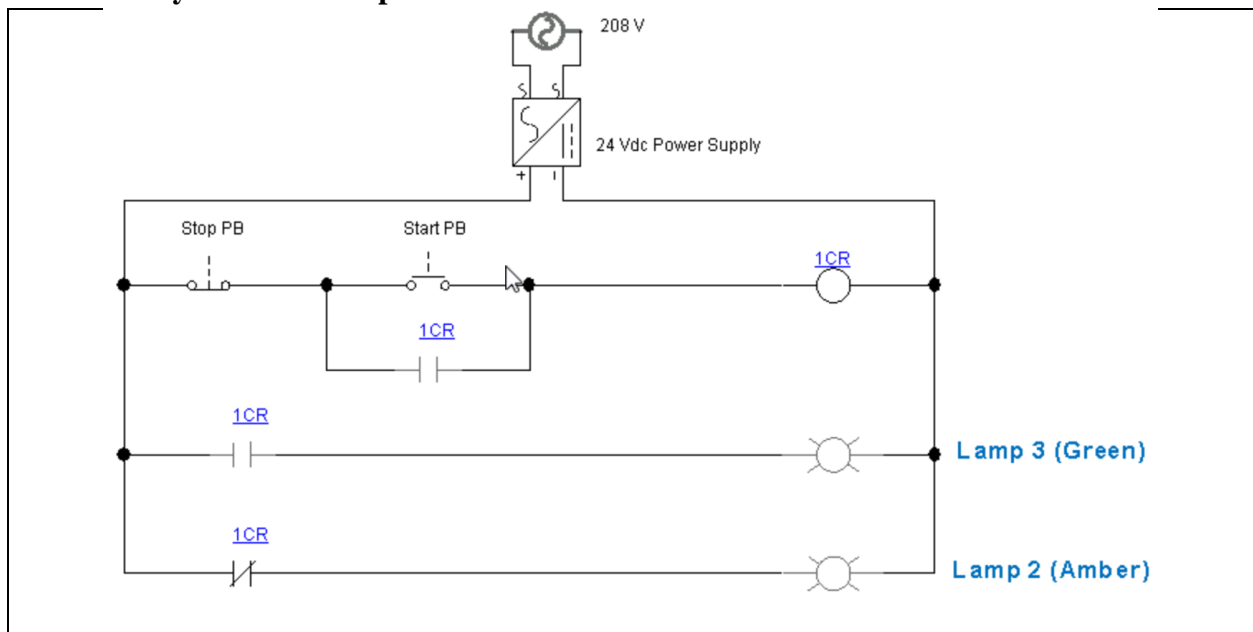

Figure 5. Relay in a start/stop/hold-in configuration.
1. Figure 5 shows a relay used in a start/stop circuit configuration, with a N.O. relay contact in parallel with the Start PB. The purpose of this N.O. relay contact is to keep the relay coil held in, after the Start PB is released.
2. Assemble the circuit in Figure 5, then turn power on the unit.
_____ (*Instructor Initials*) *The student demonstrated the skills assembling the circuit in Figure 5, then also measuring the voltages at specified points in the circuit, and explaining to the Instructor how the relay contacts operate when the relay coil is on, and also when it is off.*